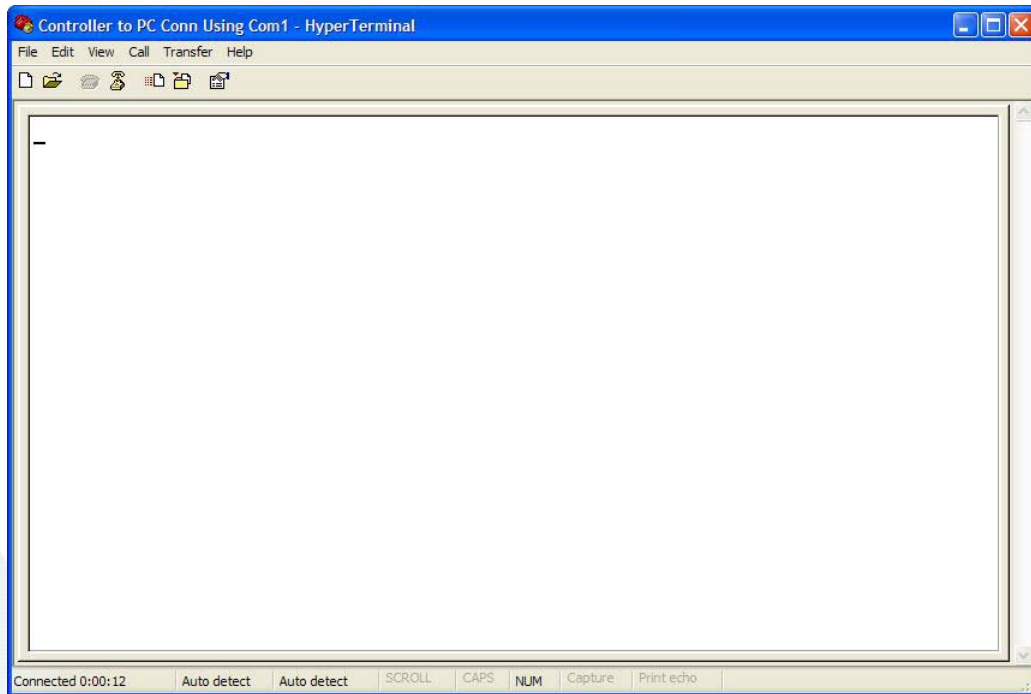

Figure 6 HyperTerminal Screen Ready to Accept Data
14. Select the correct settings for the port. Set the baud rate to be 9600 using the drop down menu box. Leave the other default values alone (8, None, 1, Hardware). Select the "Apply" button and then the "OK" button. The "COM1 Properties" dialog will close and a ready to receive data screen will be displayed (See Figure 6 HyperTerminal Screen Ready to Accept Data)